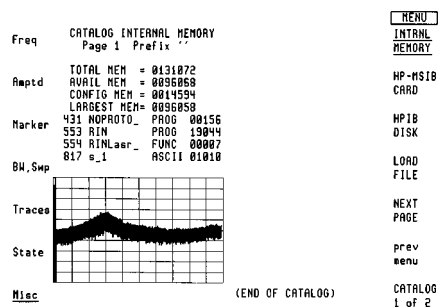

Figure B-1. Display when selecting "Mass Storage Is" assignment will be given as in figure B-1.
The trace display will shrink and the list of the current "Mass Storage Is" assignment will be given as in figure B-1.
**Misc, more, Catalog & MSI.** The instrument's trace display will shrink and the list of the current "Mass Storage Is" assignment will be presented as in figure B-1.